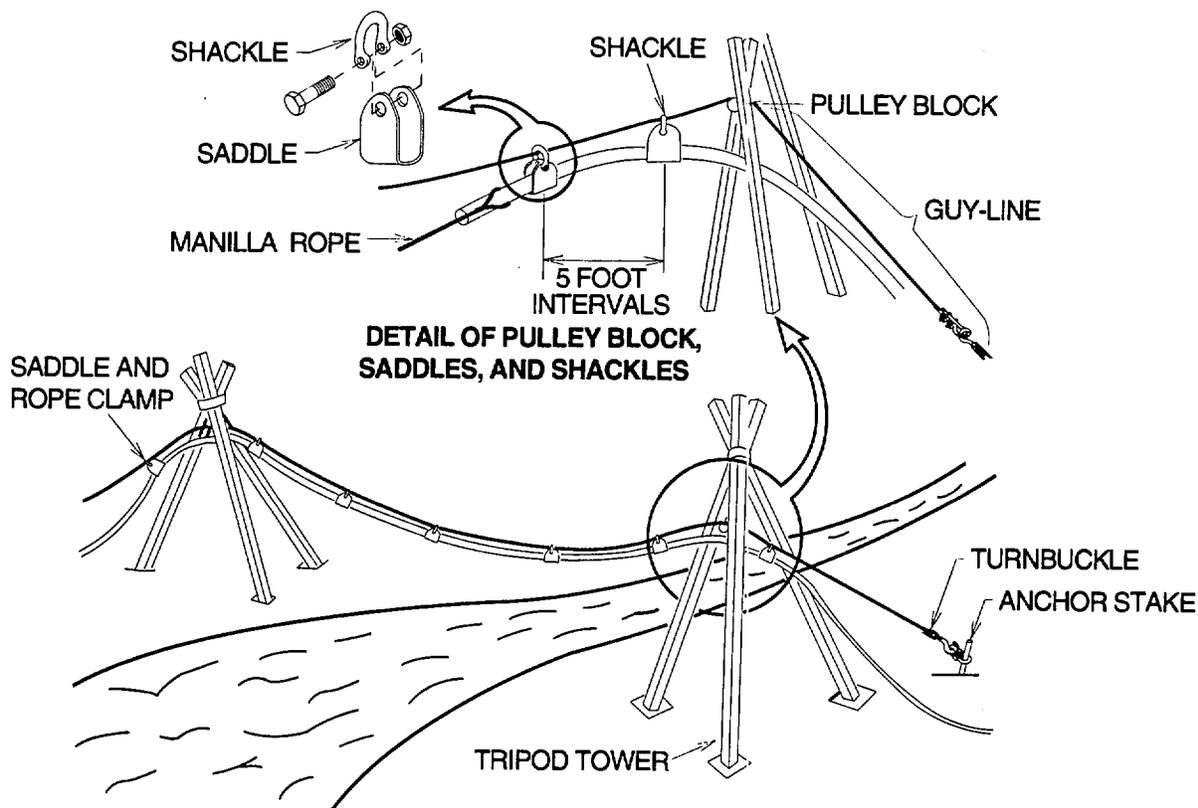

Figure 4-14. Suspension Kit Installation
Install suspension sets at road crossings, small streams, and other areas where a nestable culvert may not be used. Crossings must provide clearance from flood stages. Each hoseline suspension kit provides adequate material for one 200 foot wide crossing or two shorter crossings. Materials for the construction of towers (timber, bolts, nails, etc.) are not included in the kit and must be obtained locally. (See figure 4-14.)
- a. **Suspension Towers.** When constructing suspension towers for spans up to 75 feet, short towers constructed of 4x4 timber or similar material can be utilized as long as adequate clearance is ensured. For spans over 75 feet, towers must be constructed of 6x8 timber or similar material to provide adequate clearance and strength. Naturally occurring trees along the hoseline route may be used as towers provided there is adequate clearance. Trees must be a minimum of 10 inches in diameter, sound, and well rooted. All suspension towers shall be anchored by guy-lines to anchor stakes provided in the suspension kit. When constructing tripod suspension towers, (see figure 4-14), position one leg of each tower toward the other with the remaining two legs angled backward and toward either side of the first leg. This will provide maximum strength and stability.
- (1) Drive anchor stake into the ground approximately 15 feet from each tower in line with both towers. Stake should protrude from ground approximately 6 inches. Use the driving head to drive stakes.
- (2) Hang a pulley block from each tower and thread wire rope through pulley on near side.
- (3) Pull wire rope across stream or obstruction.
- (11) Place shackle on wire rope, lift hose end, wrap saddle around hose, and attach to shackle. Tie manila rope to leading end of hoseline (figure 4-14).
- (12) As saddles are applied and secured, use the manila rope to pull hoseline across the stream, gap, or obstruction. Saddles will travel along wire rope, providing support for hoseline.
- (13) When hoseline is in place, use three or more clamps (depending upon need) to secure shackles to wire rope to prevent an accumulation of slack in center of span.